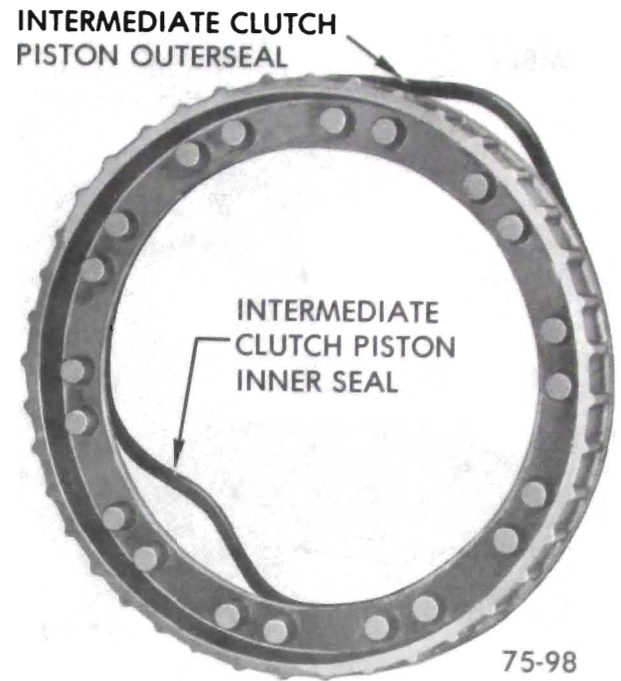

Figure 75-134
3. Remove intermediate clutch piston inner and outer seals. See Figure 75-134.
4. Remove three (3) direct clutch to pump hub hook type oil rings. Remove pump cover to direct clutch drum selective thrust washer. Inspect the two (2) forward clutch to pump hub teflon oil seal rings, but do not remove them unless they are damaged. If
4. Install intermediate clutch piston inner seal and outer seal. See Figure 75-134.